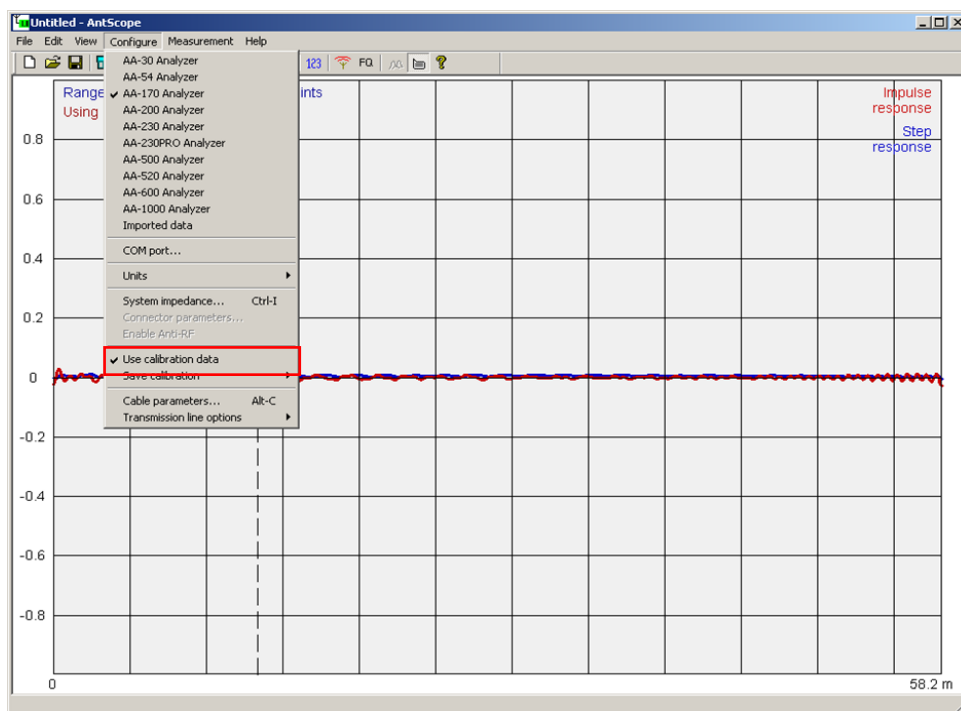

Figure D-11: Use calibration data
14. Select the **Configure** menu item and ensure that **Use calibration data** is checked as shown in Figure D-11.